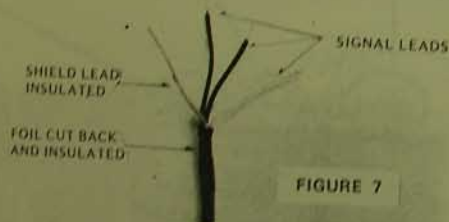

FIGURE 7
- Cover the outside insulation, shield foil, and shield lead at termination point. Shield must not touch anything conductive at the operator's device end. Shielded cable should now look like Figure 7.